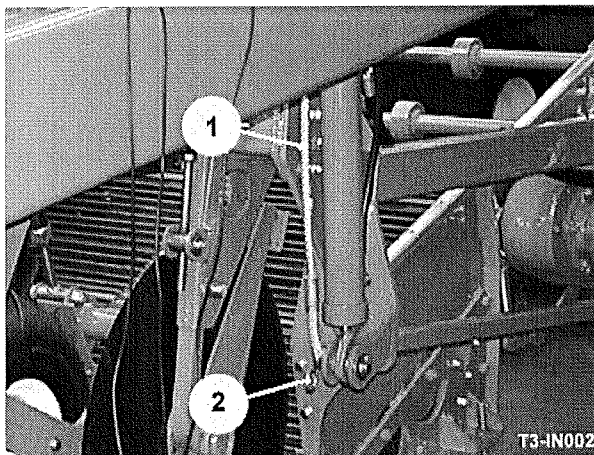

Fig 3
The digger assembly, which includes the depth wheels, disc coulters, shares and digger web, is retained in the raised position by the transport lock cables (item 1, fig 3) fitted on both sides of the machine. Before attempting to operate the digger assembly, the transport lock cables will need to be released by removing the retaining clips and washers (item 2, fig 3).